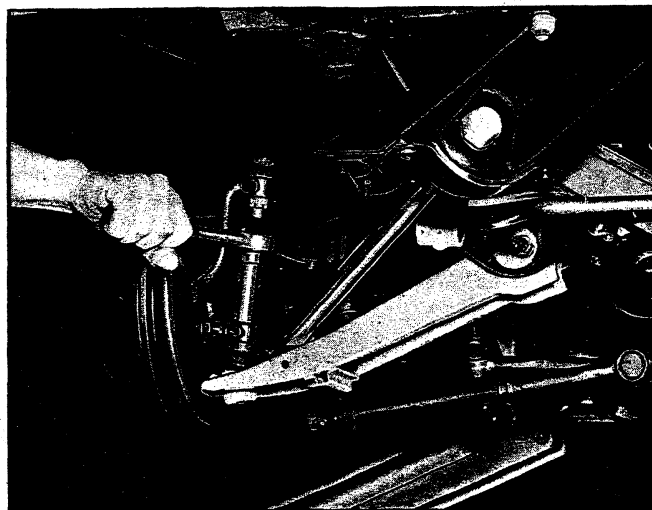

Fig. 29 - Disassembling Lower Ball Stud - Chevy II
2. Raise vehicle and remove cotter pin and nut from lower ball joint stud (fig. 29).